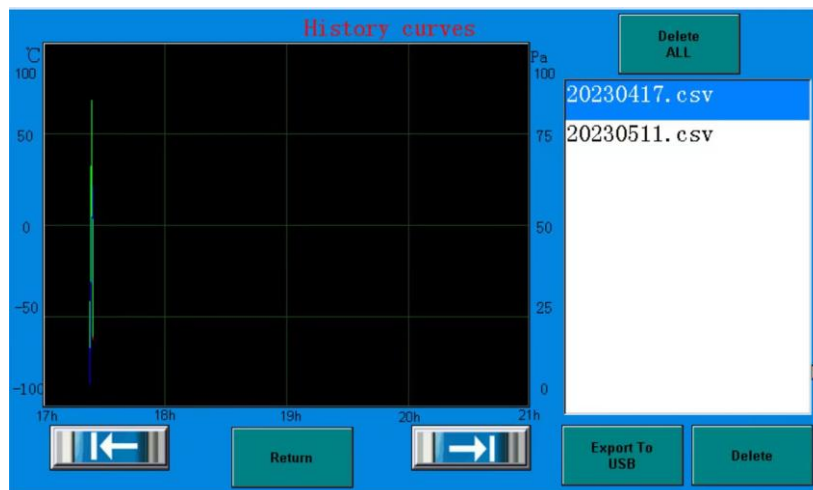

Fig.4 History Data Screen
- ✓ Press the History Data button on the main screen, you can check the history batch data information. As shown in Fig4.